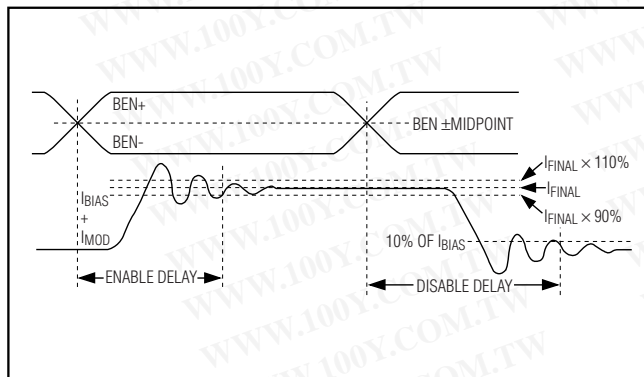

Figure 1. Enable and Disable Delay Times
**Note 11:** Enable delay is measured between (1) the time at which the rising edge of the differential burst enable input signal reaches the midpoint of the voltage swing, and (2) the time at which the combined output currents (bias and modulation) reach 90% of the final level set by  $R_{APCSET}$ ,  $R_{BIASMAX}$ , and  $R_{MODSET}$  (after all transients such as overshoot, ringing, etc., have settled to within 10% of their final values). See Figure 1. Measurement done for  $10mA \leq I_{MOD} \leq 85mA$  and  $4mA \leq I_{BIAS} \leq 70mA$ .
**Note 12:** Disable delay is measured between (1) the time at which the falling edge of the differential burst enable input signal reaches the midpoint of the voltage swing, and (2) the time at which the combined output currents (bias and modulation) fall below 10% of the bias on current (after transients have settled). See Figure 1. Measurement done for  $10mA \leq I_{MOD} \leq 85mA$  and  $4mA \leq I_{BIAS} \leq 70mA$ .